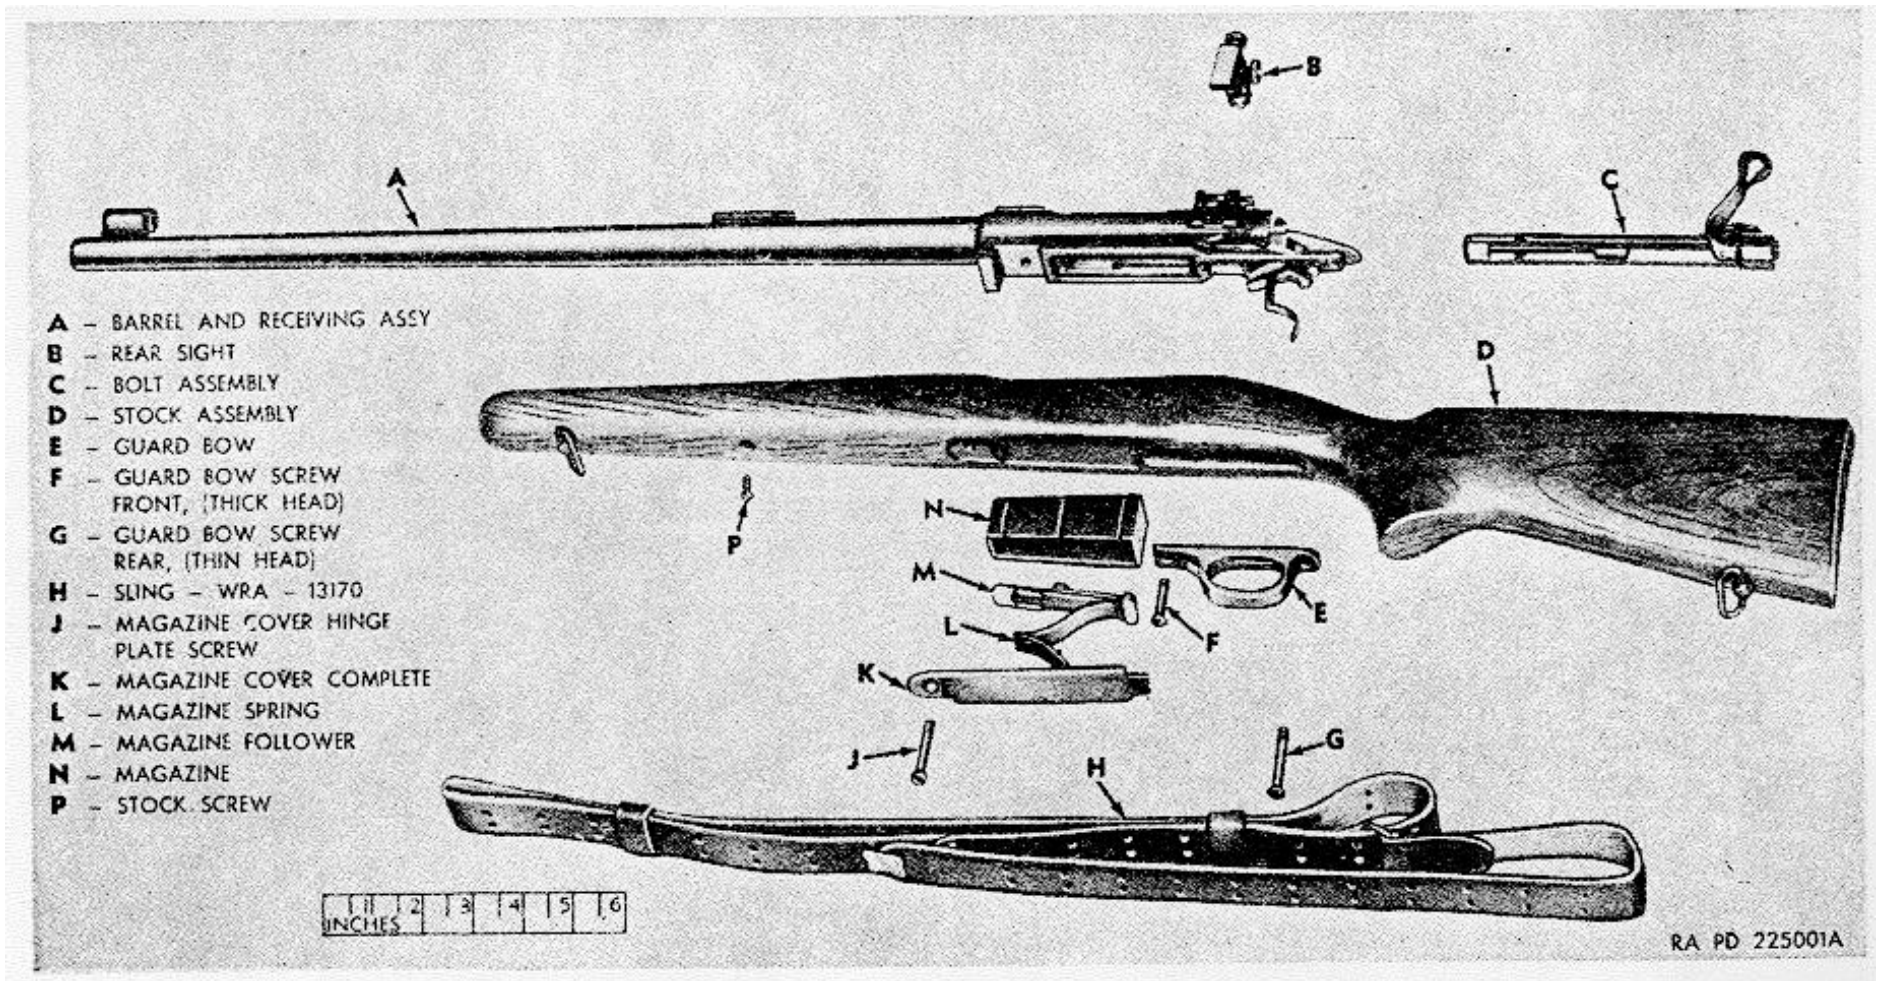

Figure 51. Cal. 30-06 Winchester rifle model 70-field stripped.
- (1) Unload cartridges from magazine and chamber (par. 25).
- (2) Remove the bolt assembly (C, fig. 51) (par. 15).
- (3) Remove the Lyman rear sight No. 48WH slide group (par. 16g).
- (4) Remove the Lyman front sight No. 77 from its base (par. 17h).
- (5) Remove the sling-WRA-13170. Depress the magazine cover catch and open the magazine cover. Unscrew magazine cover hinge plate screw and remove cover. Slide magazine spring from magazine cover and magazine follower.
- (6) Remove the guard bow front screw and guard bow rear screw from the stock. Remove the guard bow. Remove the magazine tube from the receiver well.
- (7) Remove the barrel stock screw from the barrel and separate the barrel and receiver group from the stock assembly.